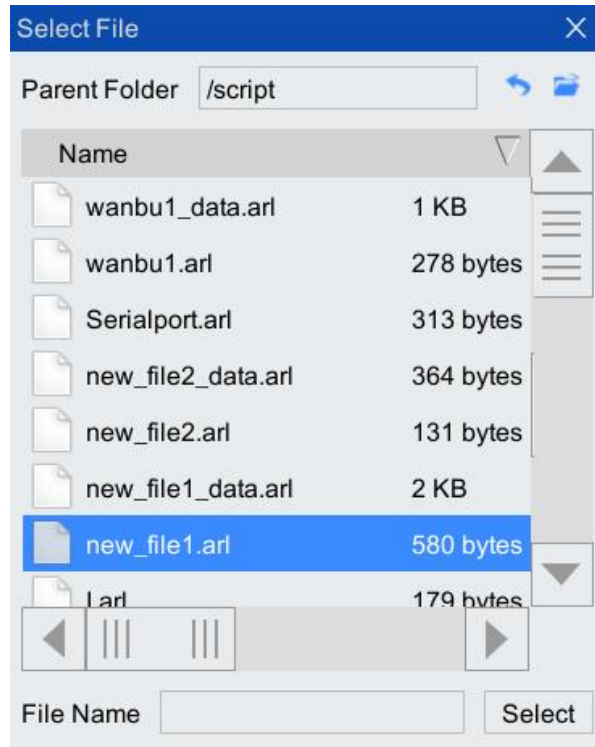
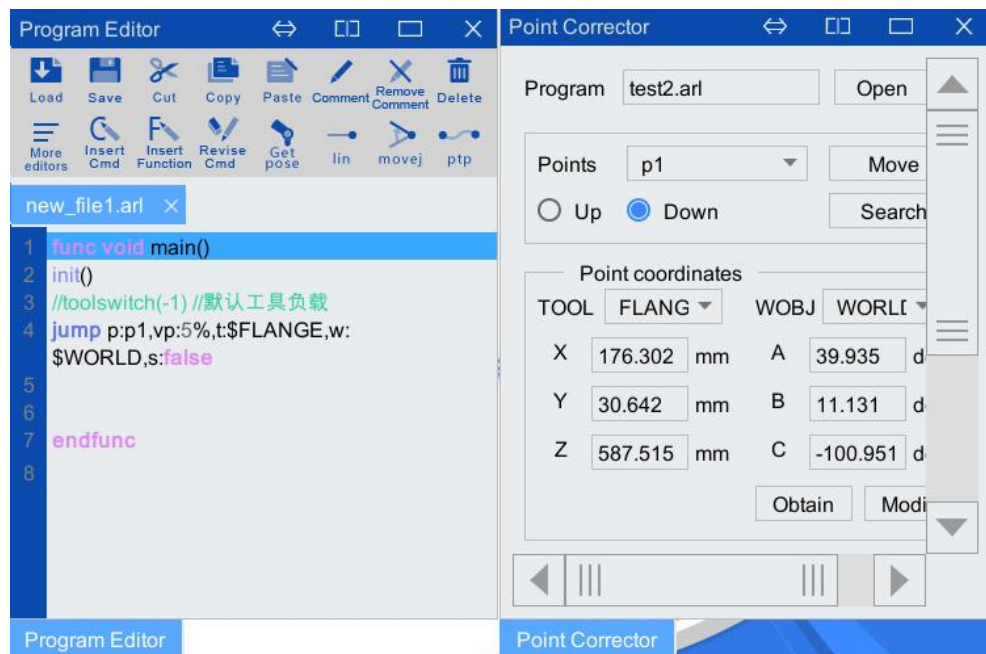

Figure 5-93 "select file" list box
Figure 5-94 "point corrector" and "program editor" interface after opening the file
Step2. Click the <Open> button above, and the "Select File" list box as shown in Figure 5-93 will pop up, select the file to be opened, and click the <Select> button. The program is opened in the "Program Editor" interface at the same time, its related information is also displayed in the "Point Corrector" interface, as shown in Figure 5-94.